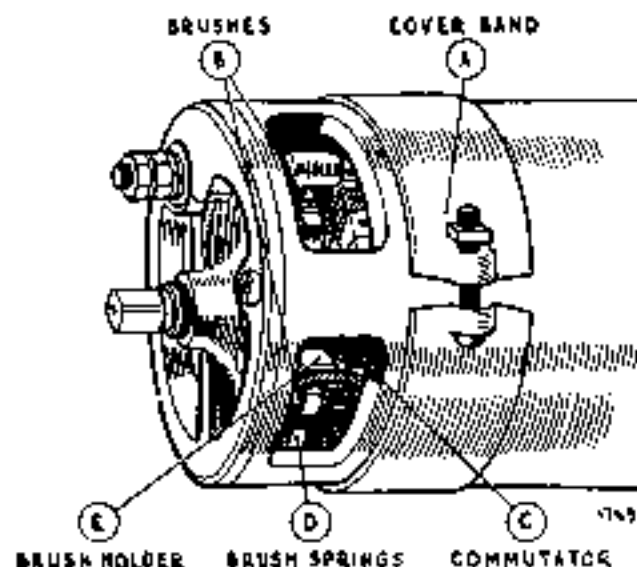

Fig. N.9
Remove the starter cover band (A) (Fig. N.9) and examine the brushes (B) and the commutator (C). Hold back each of the brush springs (D) and move the brush by pulling gently on its flexible connector. If the movement is sluggish, remove the brush from its holder (B) and ease the sides by lightly polishing on a smooth file. Always replace brushes in their original positions. If the brushes are worn so that they no longer bear on the commutator or if the brush flexible has become exposed on the running face they must be renewed.
Take off the cover band (A) (Fig. N.9) at the commutator end, hold back the brush springs (D), and take out the brushes (B) from their holders.